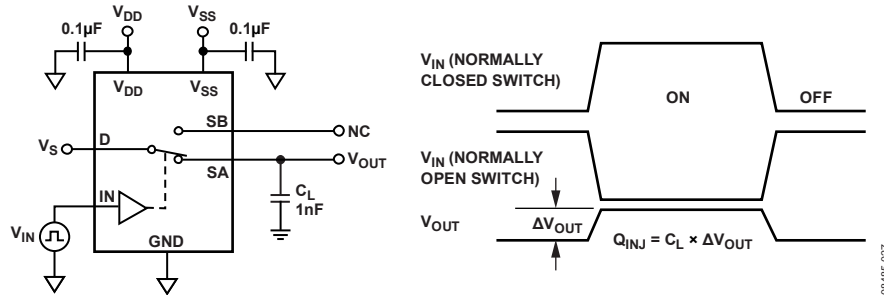

Figure 28. Charge Injection
| R_{FLAT} (ON) | Flatness is defined as the difference between the maximum and minimum value of on resistance as measured over the specified analog signal range. | Charge Injection | A measure of the glitch impulse transferred from the digital input to the analog output during switching. See Figure 28. |